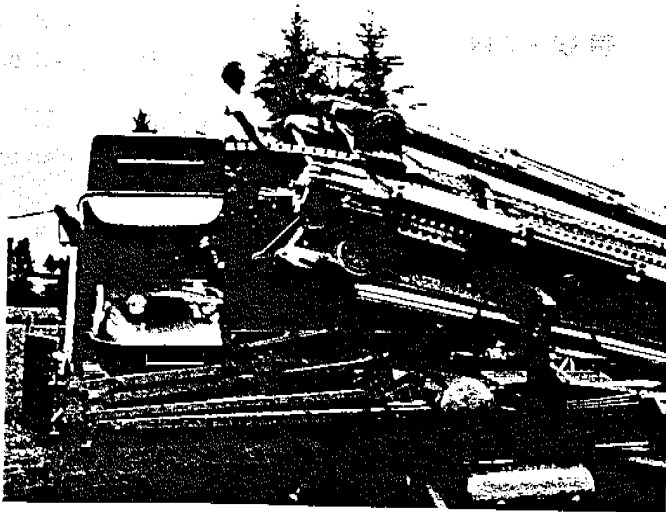

Fig. 22
- Raise the tower just far enough to install the petal lights which are stored on the gooseneck. (Fig. 22)